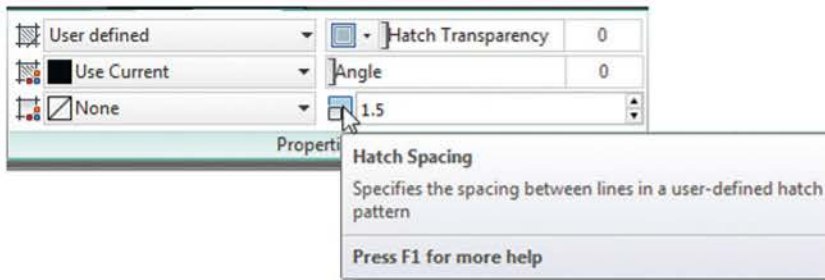

Fig. 7.10 Set the Hatch Scale in the Hatch Creation/Properties panel
3. Set the **Hatch Scale** to 1.5 in the **Hatch Creation/Properties** panel (Fig. 7.10).